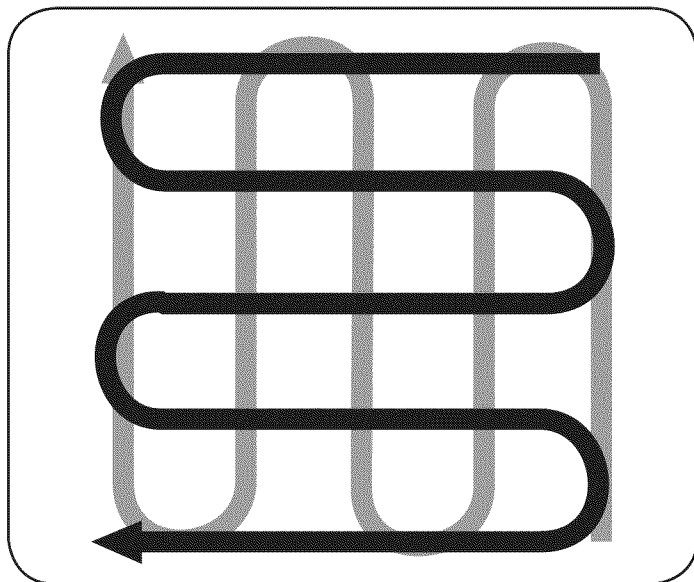

Figure 20
- When finished in one direction, make a second pass at a right angle, See Figure 20. Overlap each pass for the best results (in very hard ground, it may take three or four passes to thoroughly pulverize the soil.)